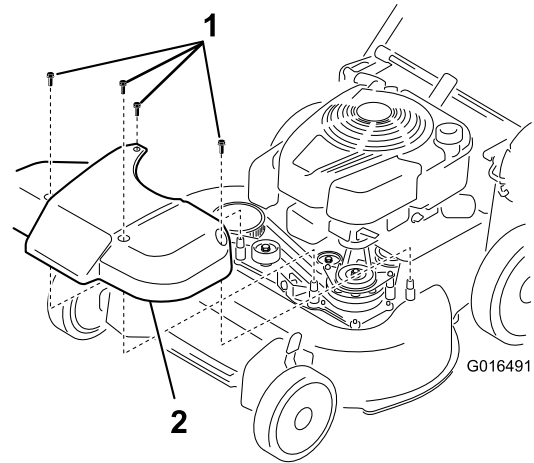

Figure 35
1. Remove the blade-drive system cover (Figure 35).